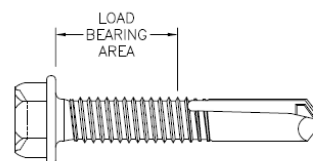

FIGURE 4—LENGTH OF LOAD-BEARING AREA
**4.1.1 General:** Screw thread length and point style must be selected on the basis of thickness of the fastened material and thickness of the supporting steel, respectively, based on the length of load-bearing area (see Figure 4) and drilling capacity given in Table 1.
4 Length of load-bearing area is the total screw length minus the length from the screw point to the third full thread. See Figure 4.